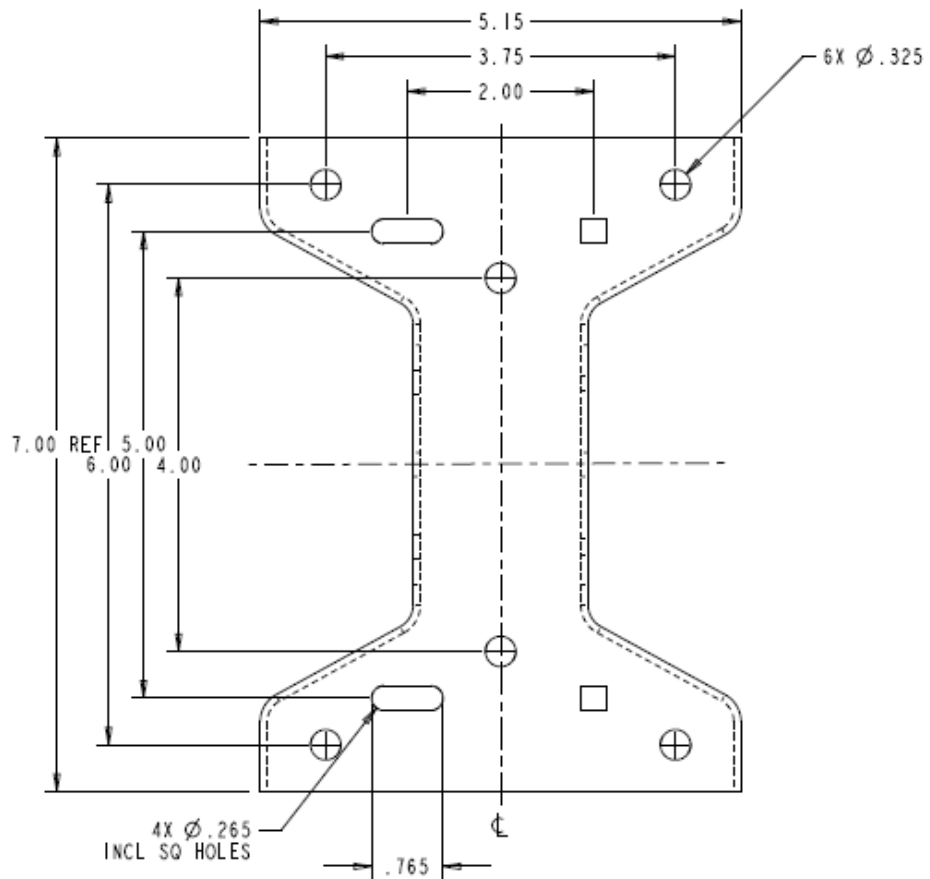

Figure 26: Base bracket hole pattern
3. The wall mounting pattern has four bolts in a 6" x 3 3/4" (15.24cm x 9.525cm) rectangle (not included). The holes are 0.325" diameter. See Figure 26.